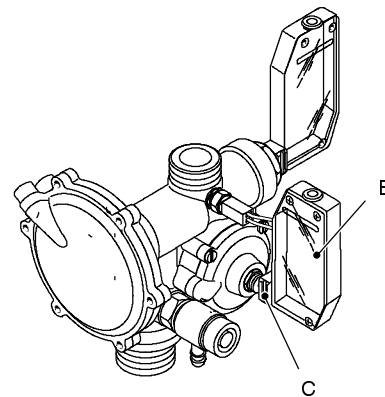

fig. 58
As a consequence of any one of these causes the main circuit flow switch cuts – off an electric circuit by means of a microswitch (B in fig. 58) installed on it.
- 2 Remove the fork C that holds the main circuit flow switch B (fig. 58).
- 2 Remove the fork *E* that holds the main circuit flow switch *B* (fig. 58).
- 2 Remove the fork *C* that holds the switch placed on the valve and remove the switch (fig. 58).